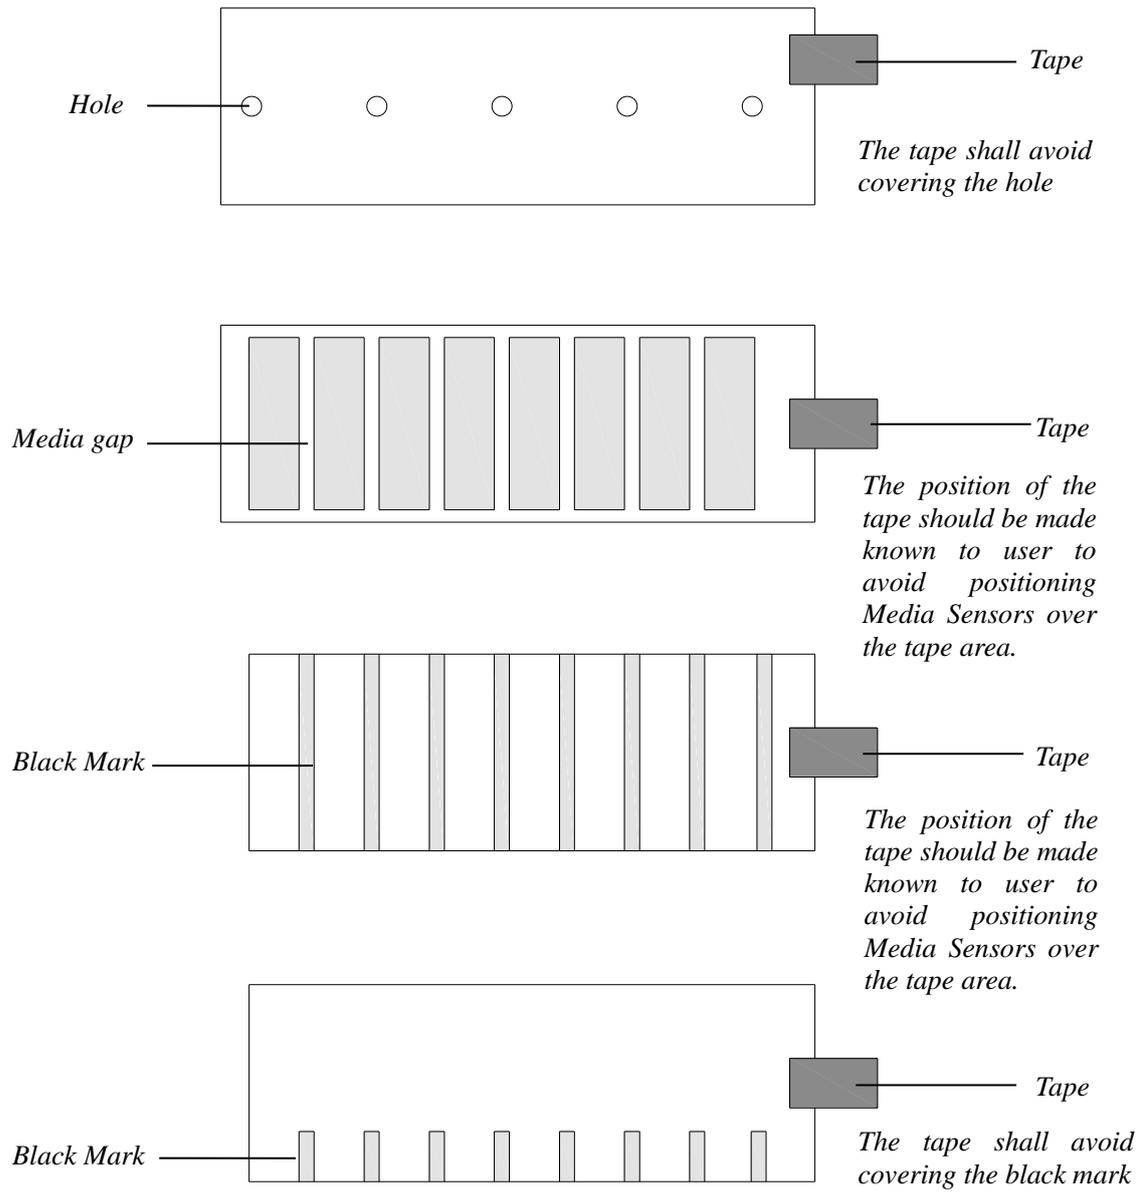

Figure 2-15 End-fixing Tape Position
- *When media rolls are produced, the media end would be fixed to the media core by duct tape or scotch tape. If your printer cannot detect Media Out signal well, please refer to Figure 2-15 to check the position of the tape.*